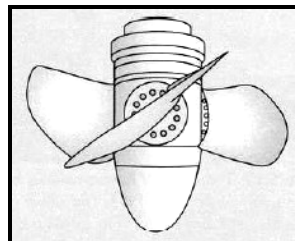

FIGURE 1.20
- 1.20 Identify the type of turbine in FIGURE 1.20 below regarding the principle of operation.